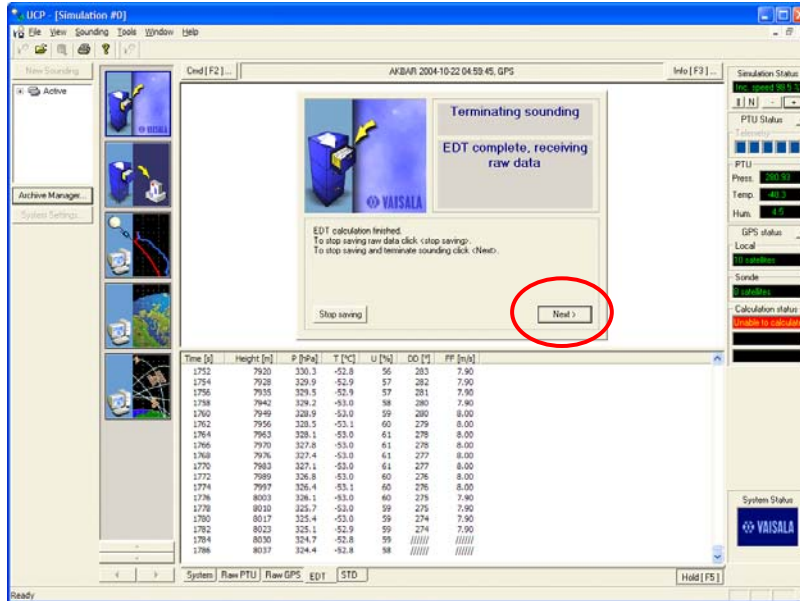

Figure 3
- Click "Next" as shown below (Figure 3).